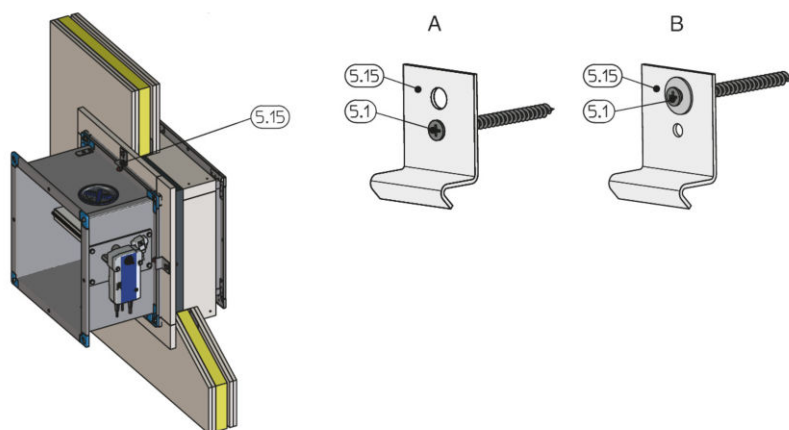

Fig. 61: Fastening the assembly to the metal studs
2. ▶ Attach the fire damper with brackets and dry wall screws to the metal support structure, see Fig. 61.